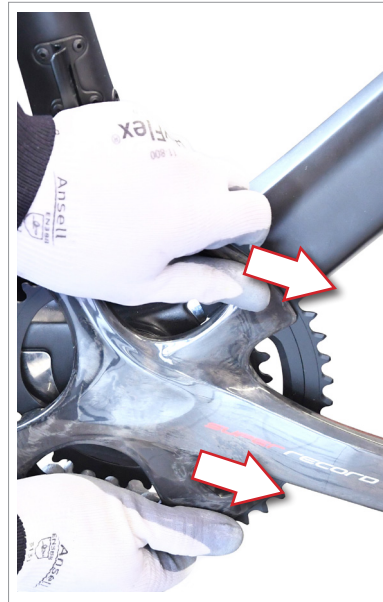

Fig.5
• Move the right hand crank to the side as if to extract it from the bottom bracket, to ensure that the spring was positioned correctly and is retaining the hand crank (Fig. 5).